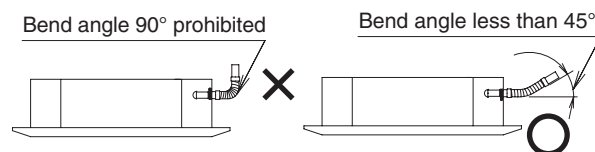

Fig. 2-37
- Do not bend the supplied drain hose 90° or more. Bend it less than 45°. (Fig. 2-37)